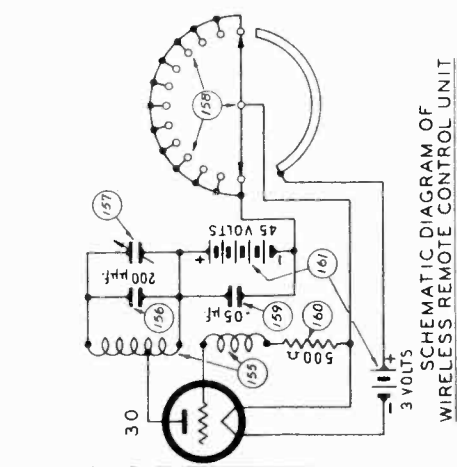

FIG. 3. WIRELESS REMOTE CONTROL UNIT WIRING
2. Now bring the wireless remote control unit close to the receiver. Using a padding wrench, Philco Part No. 5164, tune the compensator (157) Fig. 3, located on the bottom of the remote control unit until a maximum voltage reading is obtained.